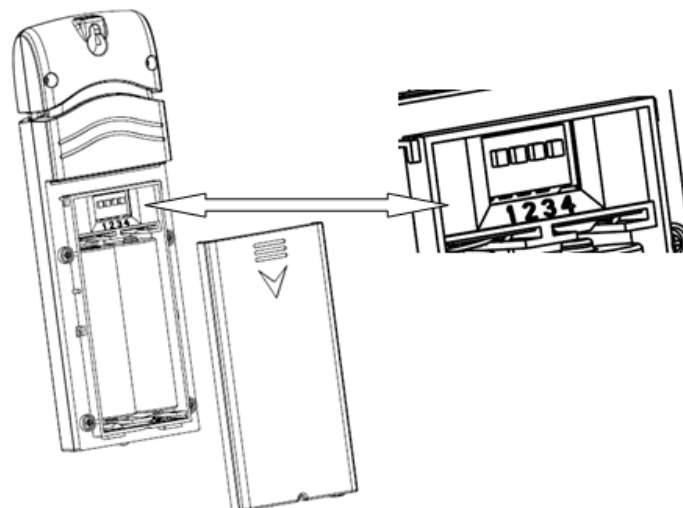

Figure 10
1. Remove the battery door on the back of the transmitter(s) by sliding down the battery door, as shown in Figure 10.